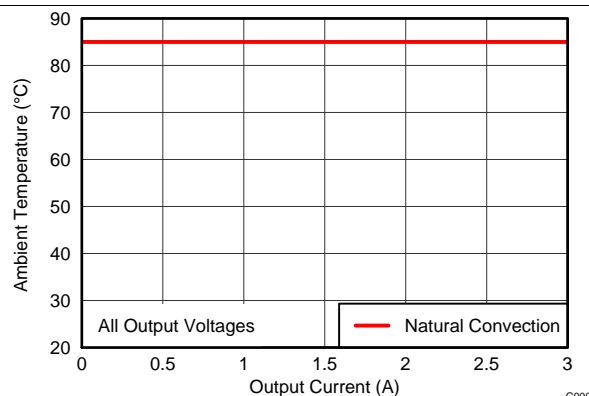

Figure 14. Safe Operating Area
- (2) The temperature derating curves represent the conditions at which internal components are at or below the manufacturer's maximum operating temperatures. Derating limits apply to devices soldered directly to a 100 mm × 100 mm double-sided PCB with 1 oz. copper. Applies to Figure 14.